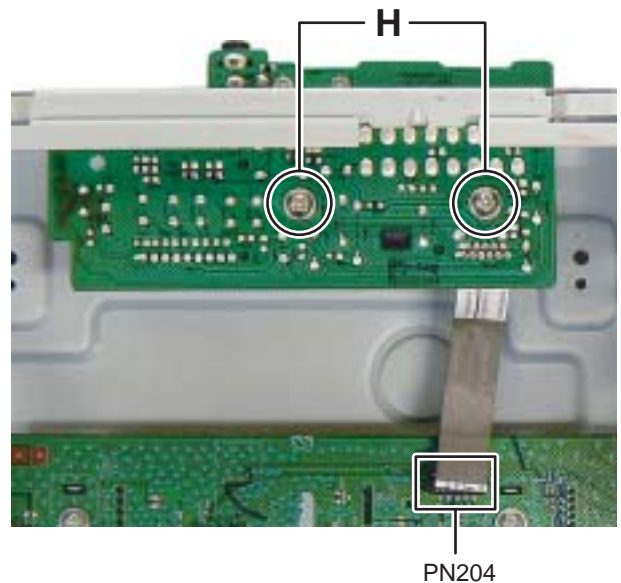

Fig.12
3.1.6 Removing the Front jack board (See Fig.12)